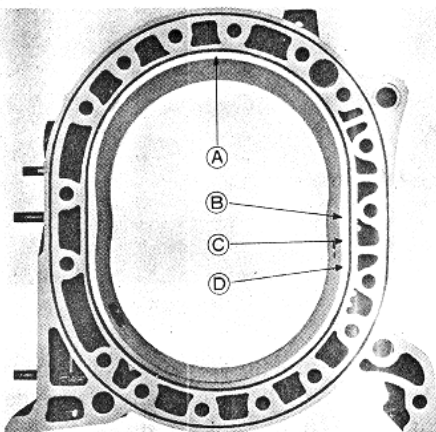

Fig. 1-38 Checking points
Compare the measured apex seal length with the minimum value among ③ ④ and ⑤ points of the rotor housing (see Fig. 1-38). The standard gap is 0.13 ~ 0.17 mm (0.0051 ~ 0.0067 in). If it is more than 0.30 mm (0.0118 in), replace the apex seal. If necessary, correct the apex seal length with emery paper.